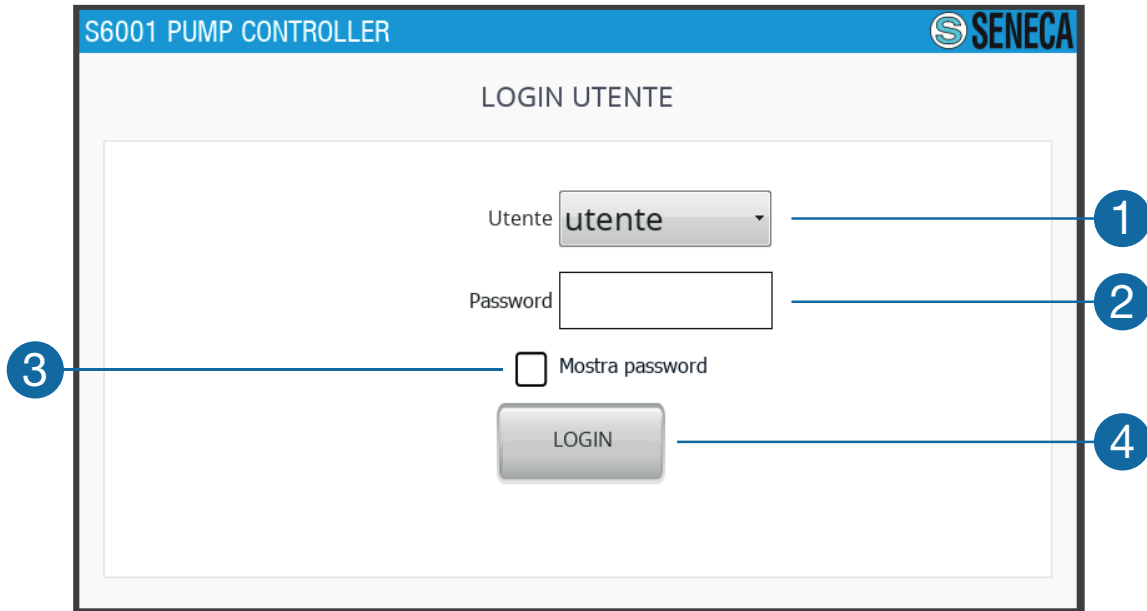

Fig. 47 Login page
On switching on the system on the HMI, the Login page is displayed (Fig. 47 on page 61).
- logout (D - Fig. 44 on page 59) and login screen access key (Fig. 47 on page 61);
The Login page (**Fig. 47 on page 61**) allows logging into the system.